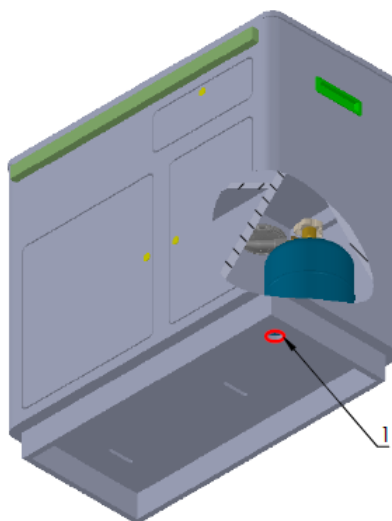

Fig. 16
- **Ventilation:** The place where the cylinder is stored must be ventilated to ensure free flow of gas in the event of a leak. Do not cover the safety opening ( *Fig. 16, 1* )